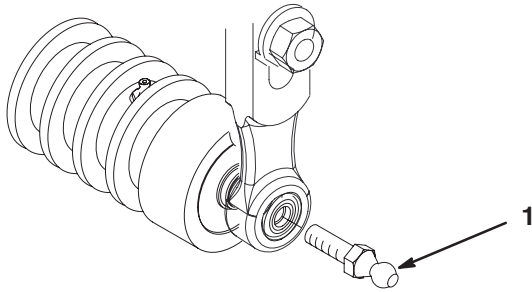

Figure 17
- G. Install the motor mount to the left end of the cutting unit with the (2) allen head screws previously removed. Torque screws to 12-15 ft-lbs. (16-20 N·m).
- Thread a ball stud into each end of the cutting unit front roller (Fig. 17).